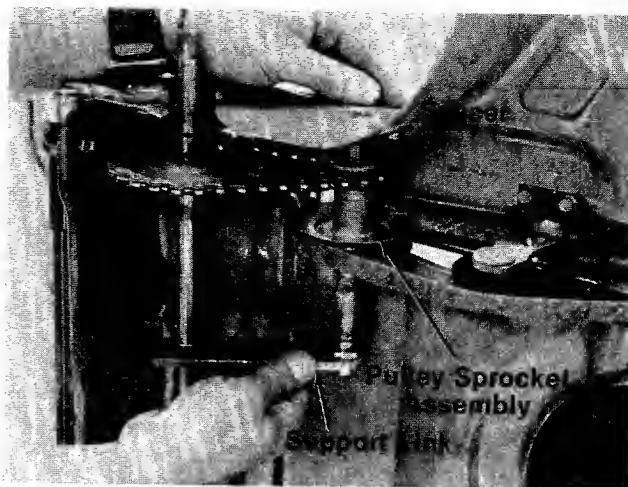

FIGURE 23.
9. Slide the support link down the rear axle, removing it from the side of deck and pulley sprocket assembly. See figure 23.
10. Remove the spacer from pulley sprocket assembly. See figure 23.